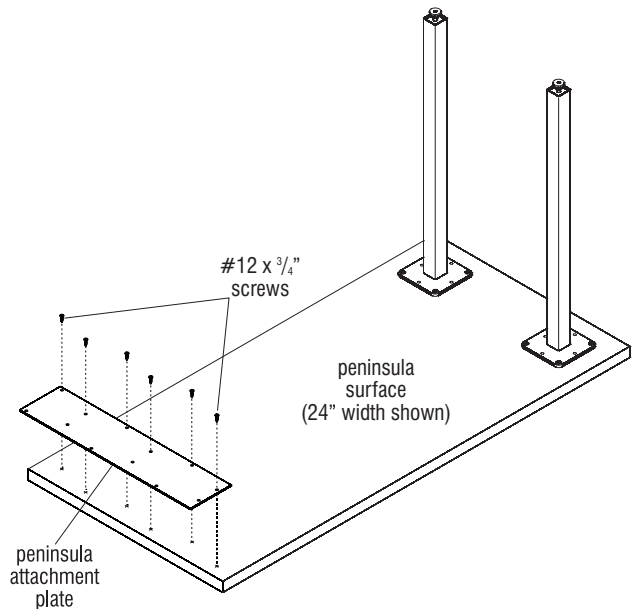

Figure 10 - Peninsula Attachment Plate Installation
1. Lay the peninsula worksurface down on a soft, protective surface. At the front end of the surface, install approved support such as a Unite support leg or a pair of post legs (shown installed) (Figure 10).